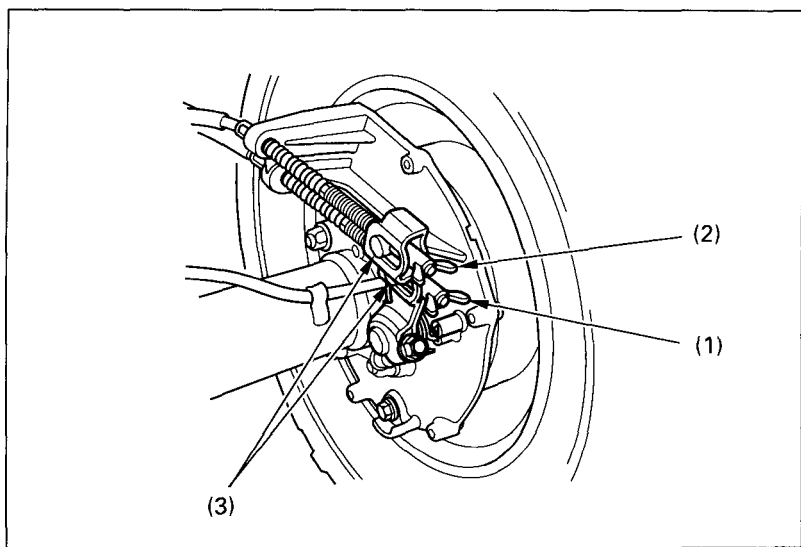

Fig. 4-30 (1) Brake pedal adjusting nut
(1) Rear brake pedal
To adjust the free play, turn the brake pedal adjusting nut (1), (Fig. 4-30), located on the brake operating rod at the rear of the frame. Make sure the cut-out on the adjusting nut is properly seated on the brake arm pin (3).
To adjust the free play, turn the brake lever adjusting nut (2), (Fig. 4-30), located on the brake operating rod at the rear of the frame. Make sure the cut-out on the adjusting nut is properly seated on the brake arm pin (3).